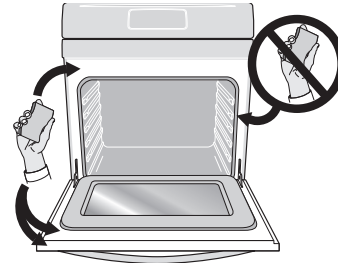

Figure 23: Clean around the oven door gasket
9. Wipe oven cavity and bottom. Do not clean oven door gasket (Figure 23). Avoid leaning or resting on the oven door glass while cleaning cavity.